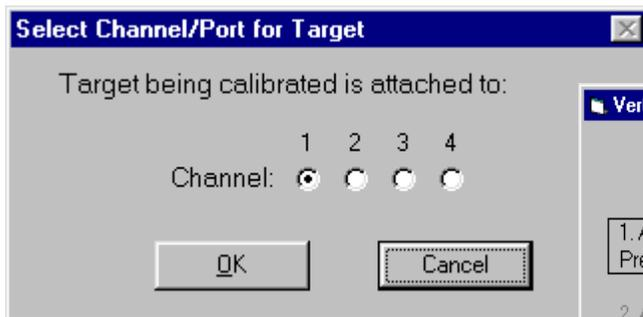
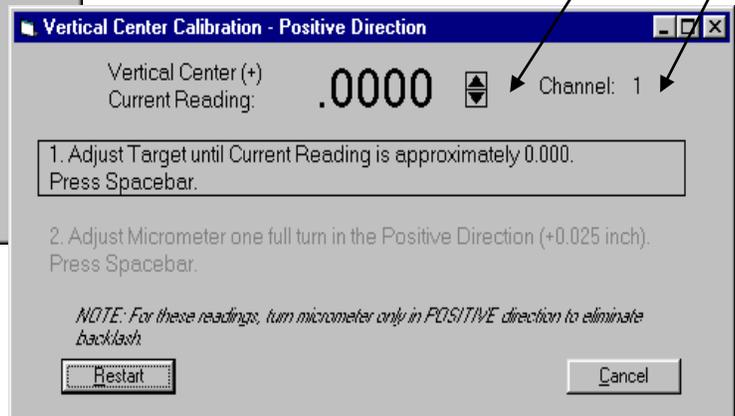

Figure 50 – Channel/Port Selection Screen
Figure 51 – Calibration Screen
The Select Channel/Port for Target menu displays (see Figure 50). Select the channel or the port to which the target is attached and click **OK**. The Calibration Screen displays and indicates the Port or Channel selected (see right arrow in Figure 51).
- The double arrows next to the reading are visible only in Manual Data mode and are not available when actual targets are being read (see left arrow in Figure 51).
- 1. For the first reading, (in this case V+), center the target using the centering micrometer. This corresponds to Step 1 on the Calibration Screen (see Figure 51).**
1. **For the first reading, (in this case V+), center the target using the centering micrometer. This corresponds to Step 1 on the Calibration Screen (see Figure 51).**